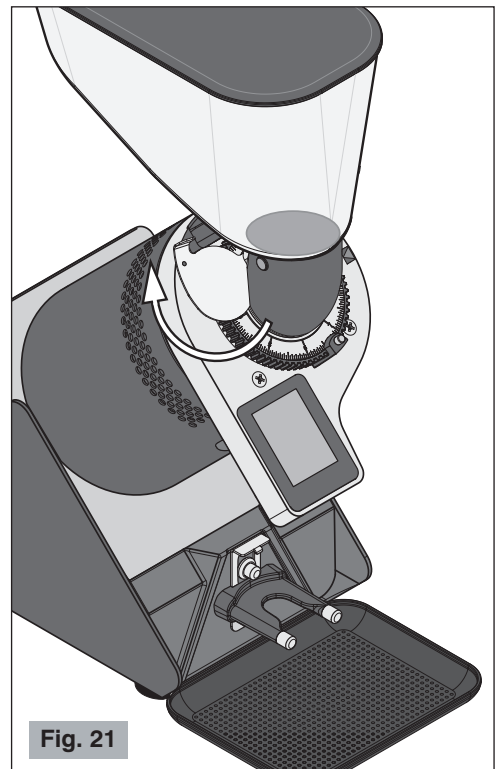

Fig. 21
**!** **Make sure that shutter is fully open to the end of its stroke (see Fig. 21).**